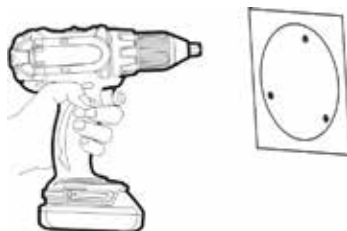

Figure 5-2
2. Take out the positioning label delivered with the camera and drill three holes with diameter of 5.5mm on the ceiling or wall based on the marks on the positioning label, nail swell plastic buttons into drilled holes, as shown in Figure 5-2. Stick the positioning label